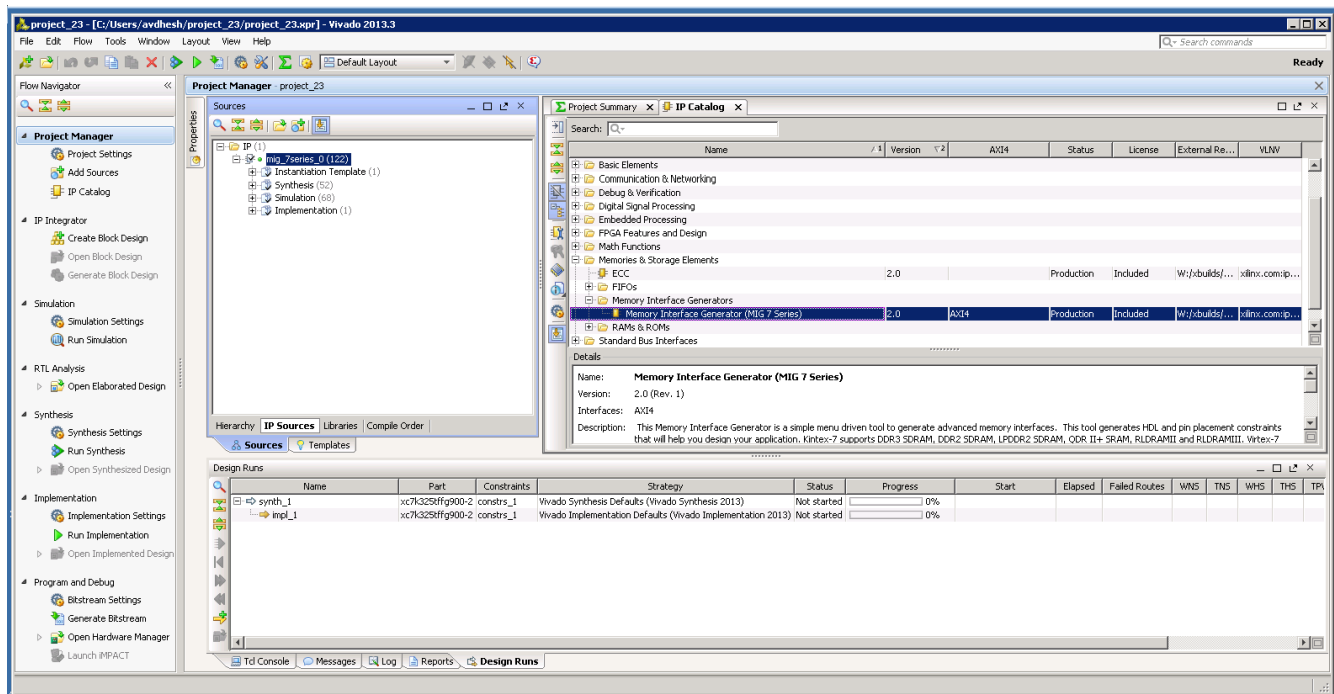

Figure 1-31: Vivado Tool Project Window (After IP Generation)
4. After generating the MIG design, the project window appears as shown in Figure 1-31.